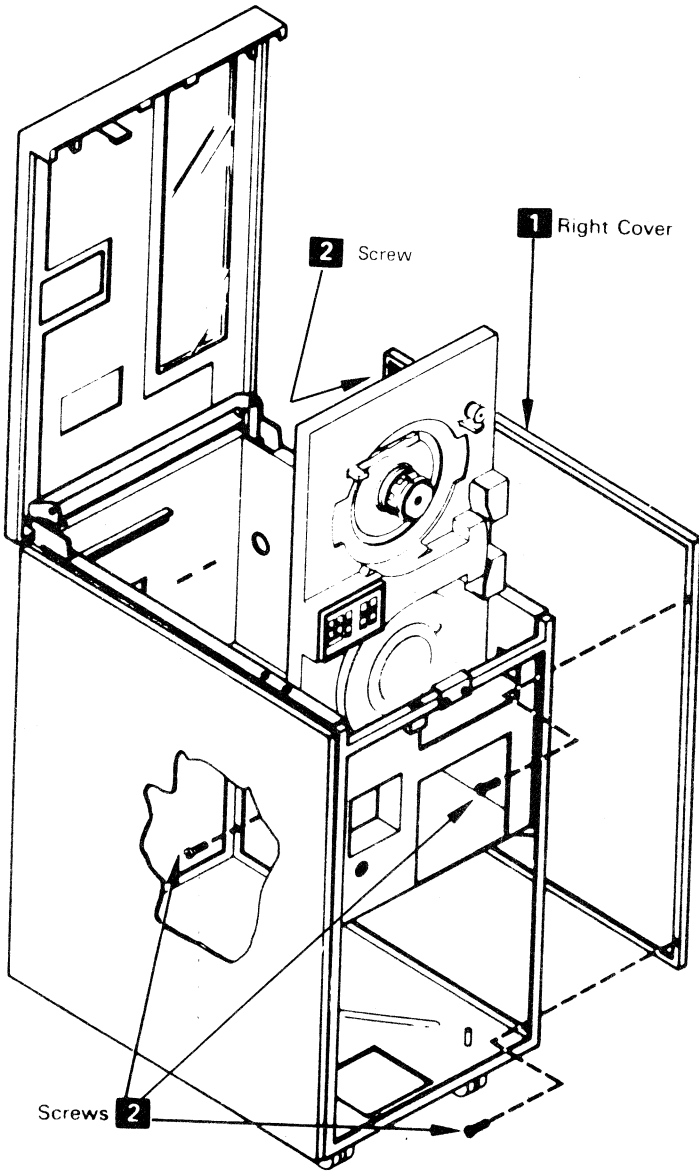

Figure 3. Removal of Right Cover
- 5. See Figure 3. Remove the right cover **1** from the Model 1A or 1B by removing the four screws **2** as shown.